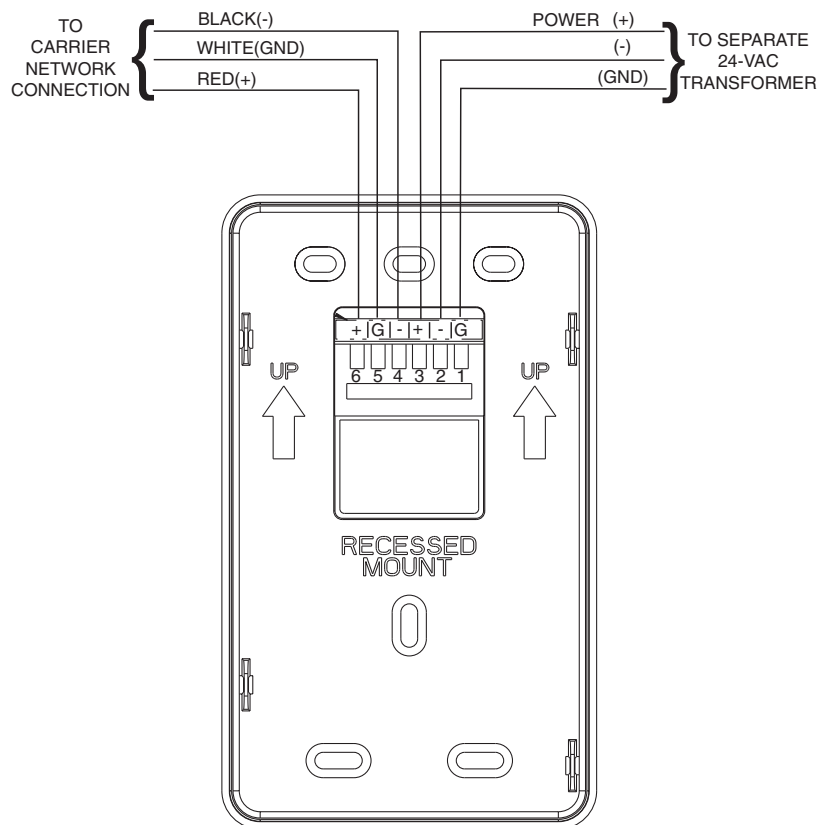

Fig. 1 — System Pilot Wiring
Wiring connections must be made in accordance with NEC (National Electrical Code) and local codes. Ground one side of the transformer secondary at the transformer location. Connect the system ground of the transformer to the System Pilot terminal JP1-1 (GND). Connect the 24 VAC- side of the transformer to the System Pilot terminal JP1-2 (24 VAC-). Connect the 24 VAC+ live side of the transformer to the System Pilot terminal JP1-3 (24 VAC+). See Fig. 1. The power supply is 24 vac at 60 Hz ± 15%, 10 va minimum.
2. Connect 24 vac from the transformer as shown in the wiring diagram (Fig. 1). Be sure to observe polarity when connecting the transformer power. The grounded terminal must be connected to the transformer ground terminal as shown.
3. Connect the other end of the communication bus cable to the terminal block labeled Carrier Network Connection on the System Pilot. See Fig. 1. Following the color code in Table 2, connect the Red (+) wire to Terminal JP1-6 (CCN+). Connect the White (ground) wire to Terminal JP1-5 (CCN GND). Connect the Black (-) wire to Terminal JP1-4 (Carrier Network Connection -).
8. Match and connect thermostat wires to proper terminals on System Pilot backplate. See wiring diagram Fig. 1.